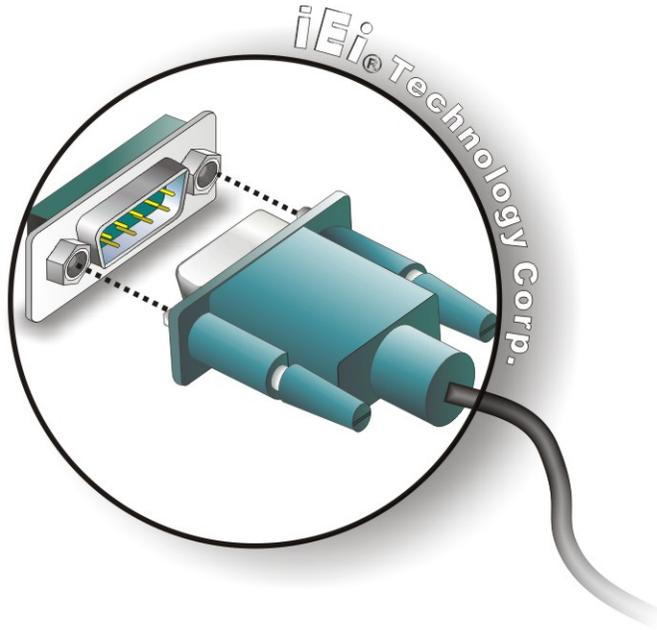

Figure 5-17: Serial Device Connector
Step 2: **Insert the serial connector.** Insert the DB-9 connector of a serial device into the DB-9 connector on the external peripheral interface. See **Figure 5-17**.